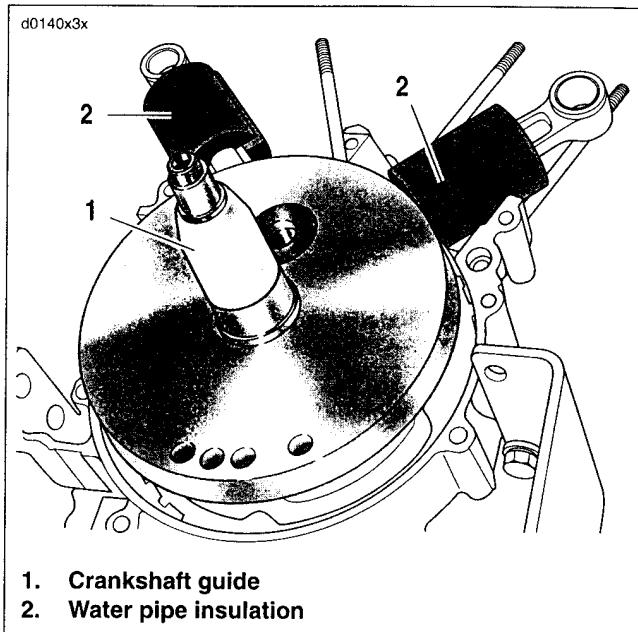

Figure 3-61. Crankshaft Guide
7. See Figure 3-61. To facilitate assembly and prevent damage to the crankshaft (roller) bearing in the right crankcase half, place CRANKSHAFT GUIDE (1) (Part No. HD-42326-A) over end of crankshaft until it contacts shoulder on shaft.